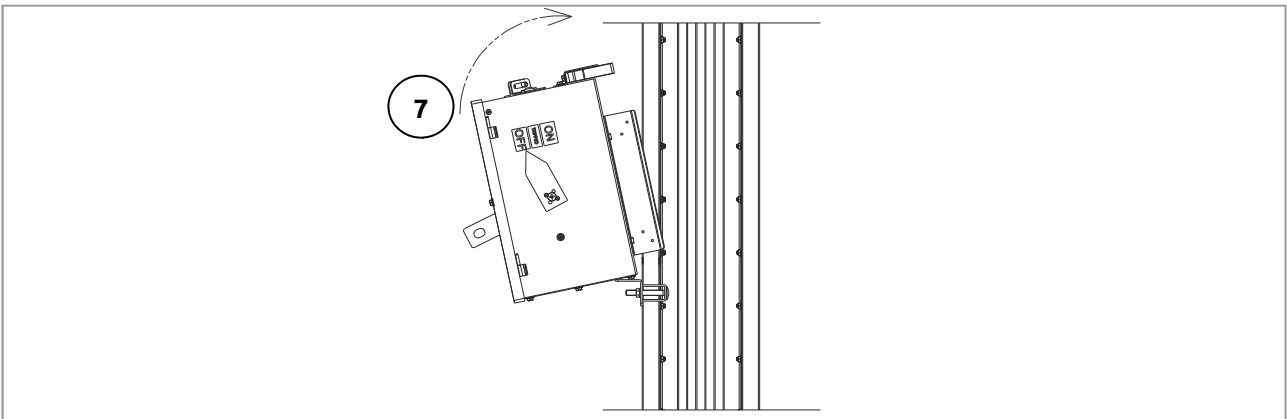

Figure 20.1
7. Lift and place the plug in unit on the fix hanger (Figure 20.1)